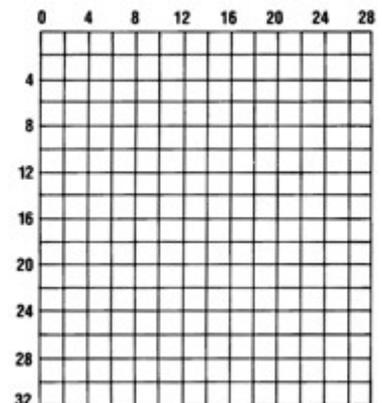

FIG. 1 - Sketch your room dimensions to scale here.
- b) Draw the exact dimensions to scale on graph paper (Fig. 1), or bring the room dimensions to your local retailer and ask a salesman to assist you in estimating the materials you'll need.
- e) Now that you've made these decisions, sketch the layout for the planned ceiling on graph paper. You can use the layout in Fig. 1, or purchase graph paper in a variety of stationery stores. Regardless of which pattern you select, draw the main tees 4' apart. Position the tees so that the border patterns at the room edges are equal on both sides and as large as possible. Try sketching several layouts before beginning the actual installation to determine which one looks best.
- c) Refer to your sketch of the room for the location of all main tees (Fig. 1). Main tees should always run at right angles to the joists in the room.